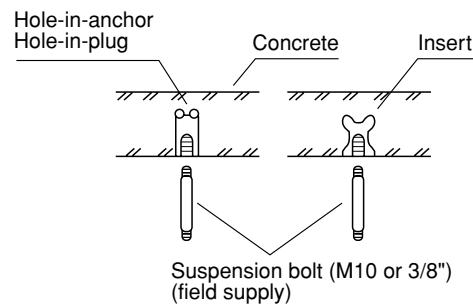
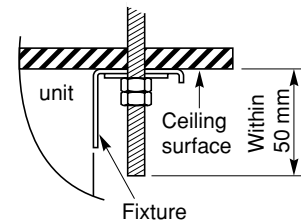

Fig. 3-85
Fig. 3-87
- (2) Drill holes at the 4 points indicated on the full-scale diagram.
- (3) Depending on the ceiling type:
- a) Insert suspension bolts as shown in Fig. 3-85.
- (4) Screw in the suspension bolts, allowing them to protrude from the ceiling as shown in Figs. 3-85 and 3-86. The distance of each exposed bolt must be of equal length within 50 mm. (Fig. 3-87)